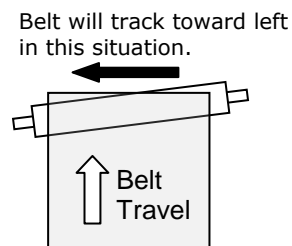

Figure 4.2 – Pulley Adjustment for Belt Tracking (Plan View) WCO, Inc.
- Prior to starting the conveyor, again ensure that all pulleys and rollers are square and level. Initially, avoid the situation shown in Figure 4.2.
- Review belt position at all pulleys. Track belt if necessary based on Figure 4.2.